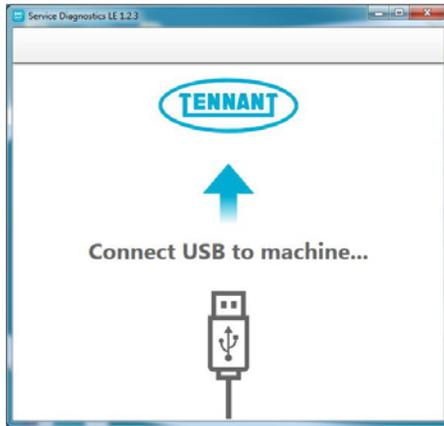

Fig. 31
2. After start up, the following screen will appear (Figure 31).